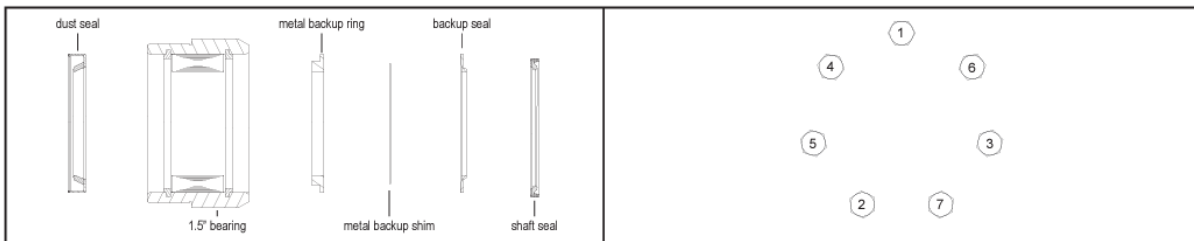

Figure 4: Bolt torque sequence
- J) Install the commutator seal (9) into the commutator (23) with the metal side facing up. Use finger pressure to press the seal down flush with the surface of the commutator. Place the commutator container onto the manifold (22) and then place the commutator onto the protruding end of the drive link (19), making sure that the seal side faces up.
- K) Install the remaining body seal (7) in the groove in the face of the endcover (26). Install piston spring (25) into endcover (26), then the white backup seal (11) followed by the O-Ring seal (10). Lining up the alignment pin with the hole in the endcover, press piston (24) into the endcover (26). While holding the piston (24) in the endcover, lower the endcover assembly onto the motor. Check to make sure that the endcover ports are in their original position.
- L) Install the seven assembly bolts (28) and pre-torque to 13,6 Nm [10 ft. lbs.] Using the bolt torque sequence shown in Figure 4, final torque all bolts to 67,8 Nm [50 ft. lbs.].